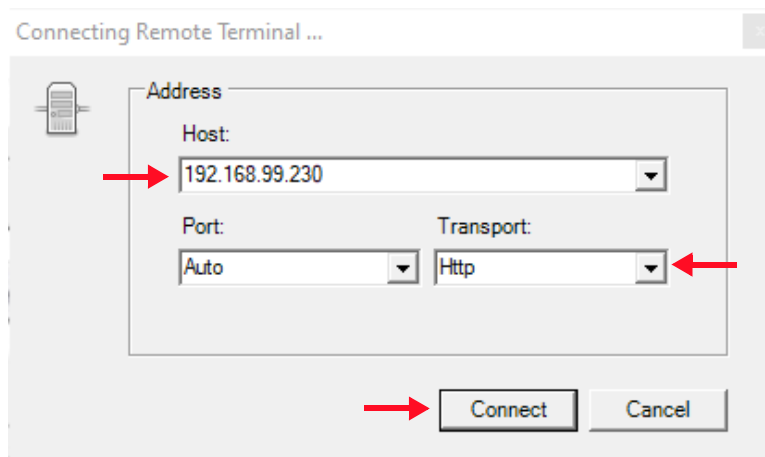

Figure 5-16. Connection window for the TriPlus Terminal Desktop
12. At **Host**, type in the IP address, see Figure 5-16.